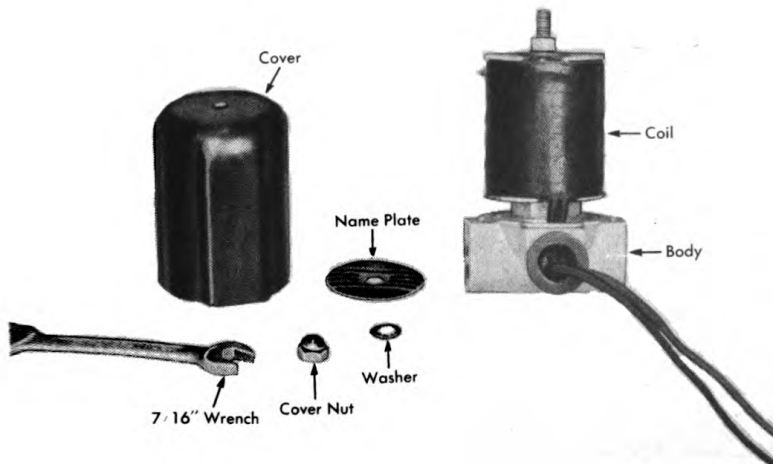

Figure 270. Cover removed from coil.
A. Remove cover nut, name plate, and cover. See Figure 270.